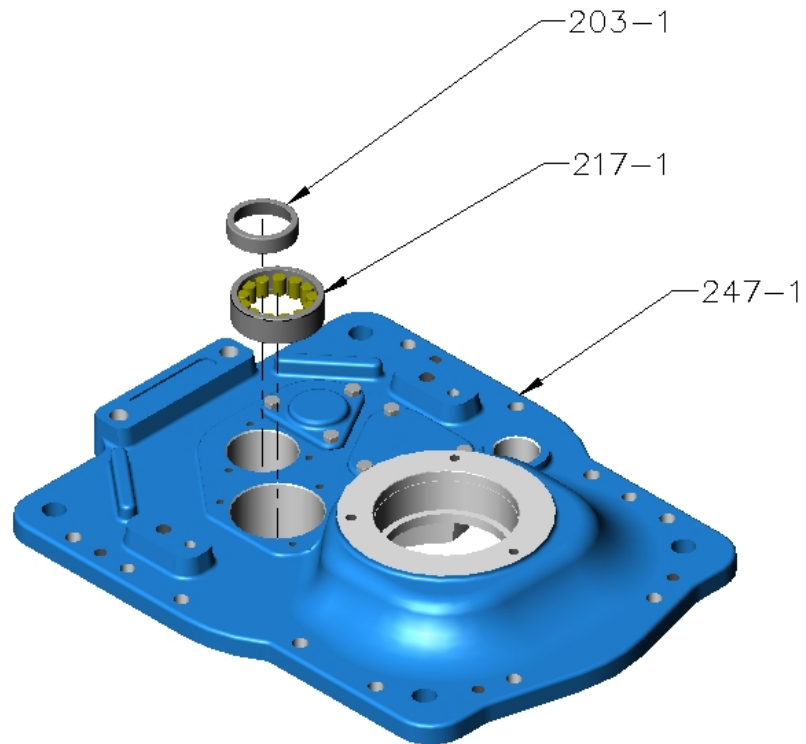

Figure 9 – Bearing races in case lid
M. At case lid remove following items (refer Figure 9):